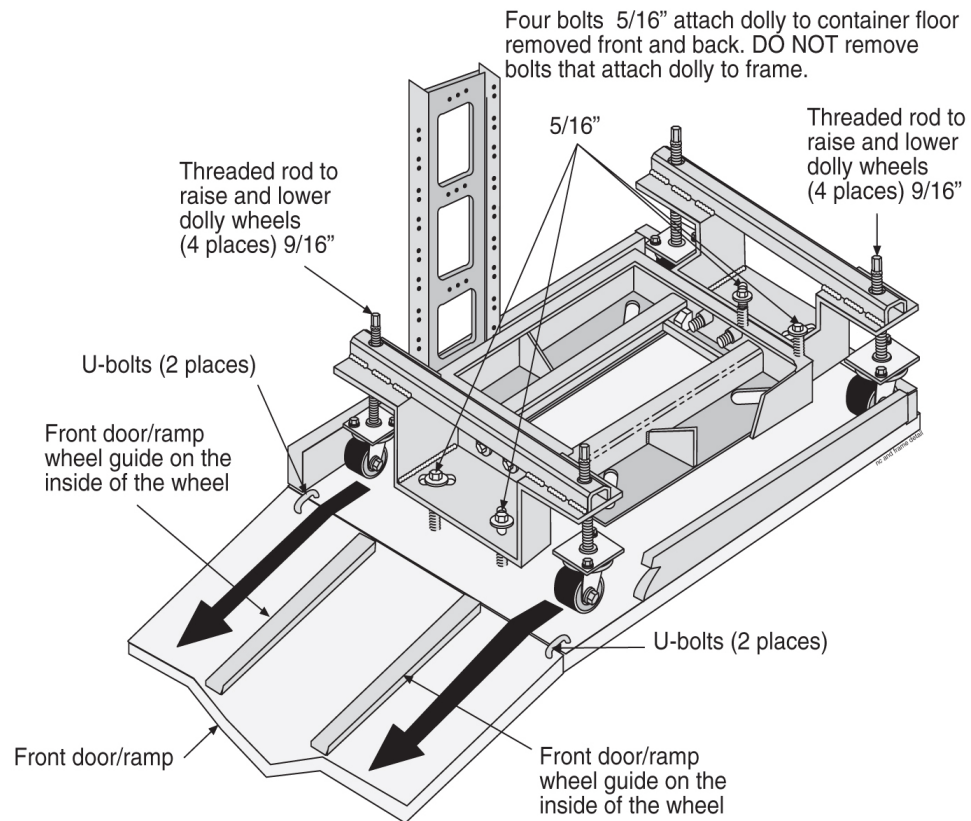

Figure 11: Shipping, Detach Dolly Heavy Duty Frame
6. Use the 9/16 inch wrench to unbolt the wooden retaining bar across the front of the frame. Do not discard the retaining brace or the bolts. At this time Do not remove the bolts holding the dolly to the frame. Refer to Figure 11: Shipping, Detach Dolly Heavy Duty Frame.